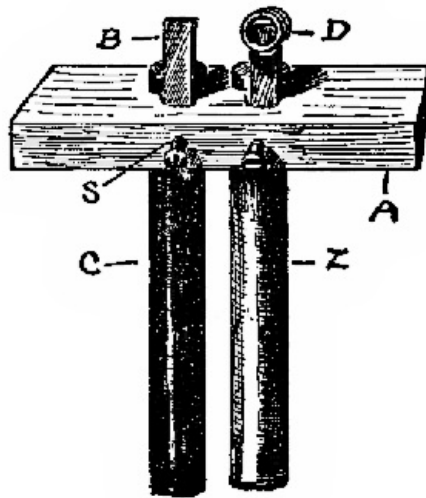

Fig. 3.
**4. Carbon-Zinc Cell.** Fig. 3. The wooden cross-piece, *A*, is  $4\frac{1}{2} \times 1 \times \frac{1}{2}$  in. The carbon and zinc rods, *C* and *Z*, are 4 in. long  $\times \frac{1}{2}$  in. in diameter. The holes are bored, if you have a brace and bit, so that they are  $\frac{3}{4}$  in. apart, center to center. This makes the rods  $\frac{1}{4}$  in. apart. To make connections between the rods and outside wires, cut a shallow slot at the front side of each hole, so that you can put a narrow strip of tin or copper, *B*, in the hole by the side of each rod. Setscrews, *S*, screwed in the side of *A*, will hold the rods in place, and at the same time press the strips, *B*, against them. Connections can easily be made between wire and *B* by using a spring binding-post, *D*, or by fastening the wire direct to the strips, as shown in App. 4.